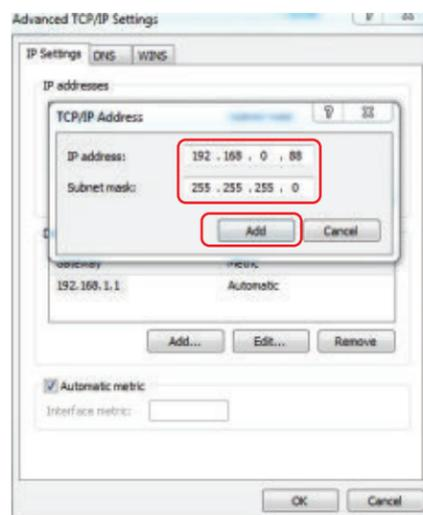

Fig. 6.9
- (3) Enter the following information in the “TCP/IP address” window. Click “Add” (See Fig. 6.9).